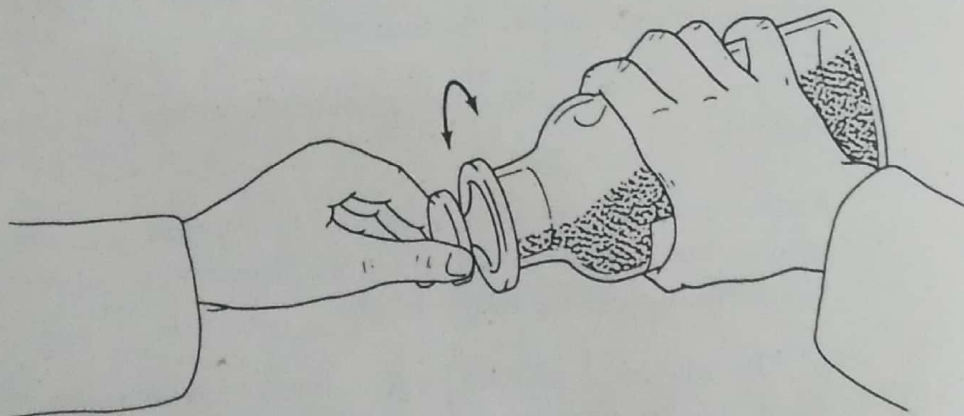

FIGURE 3.1
1. Rotate the bottle in an inclined position so that some of the material will enter the hollow glass stopper (Fig. 3.1). It may be necessary to tap the bottle gently to break up solidified surface material or to actually open the bottle and break up the solid with a clean spatula.